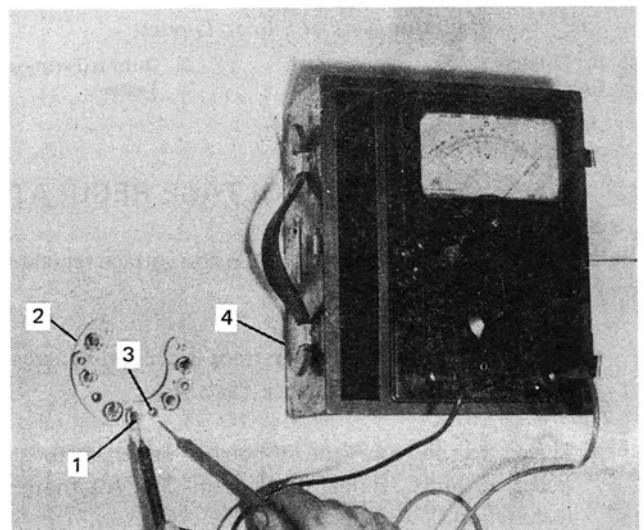
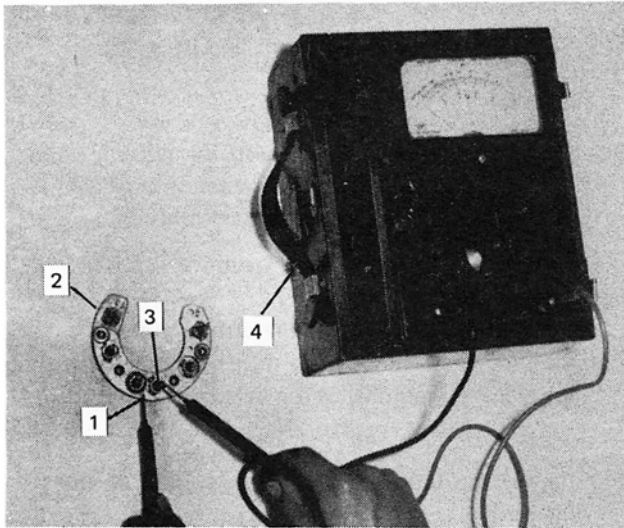

Figure 13
Figure 14
1. Connect one test lead to the output terminal stud of the diode and the other to the exposed metal area on the auxiliary terminal of the heat sink, Figure 13.
2. Repeat the test with the leads reversed as shown in Figure 14.
NOTE: Conduction should take place when the leads are connected as in Figure 13. If conduction does not take place, the diode is open and must be replaced. Conduction should not take place when the leads are reversed as in Figure 14. If conduction does take place, the diode is shorted and it must be replaced. Replace a defective diode as a complete assembly.